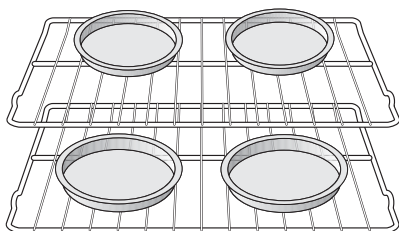

Figure 14: Baking on multiple levels
- For best results when baking cakes or cookies using two oven racks, place pans as shown in Figure 14.